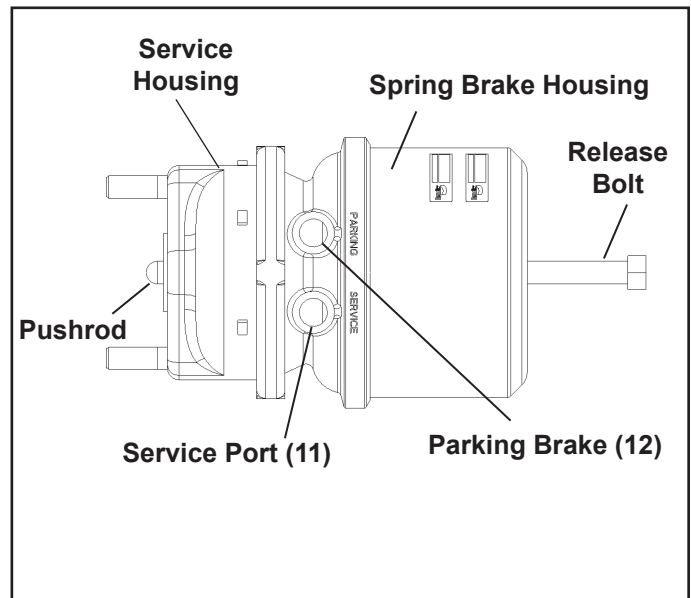

Figure 7 – Spring Brake Shown In The Caged Position
2. Connect a regulated air line to the parking brake port (12) of the actuator (if not connected previously).
3. Gradually supply 100 psi of air pressure to the parking brake port (12) of the actuator.
5. Rotate the release bolt counterclockwise until a slight resistance is encountered. Proper caging will be complete when a slight resistance is felt after turning the release bolt nut. The release bolt should be extended as shown in Figure 7. **(DO NOT OVER TORQUE RELEASE BOLT. OVER TORQUING CAN CAUSE SPRING BRAKE DAMAGE.)**